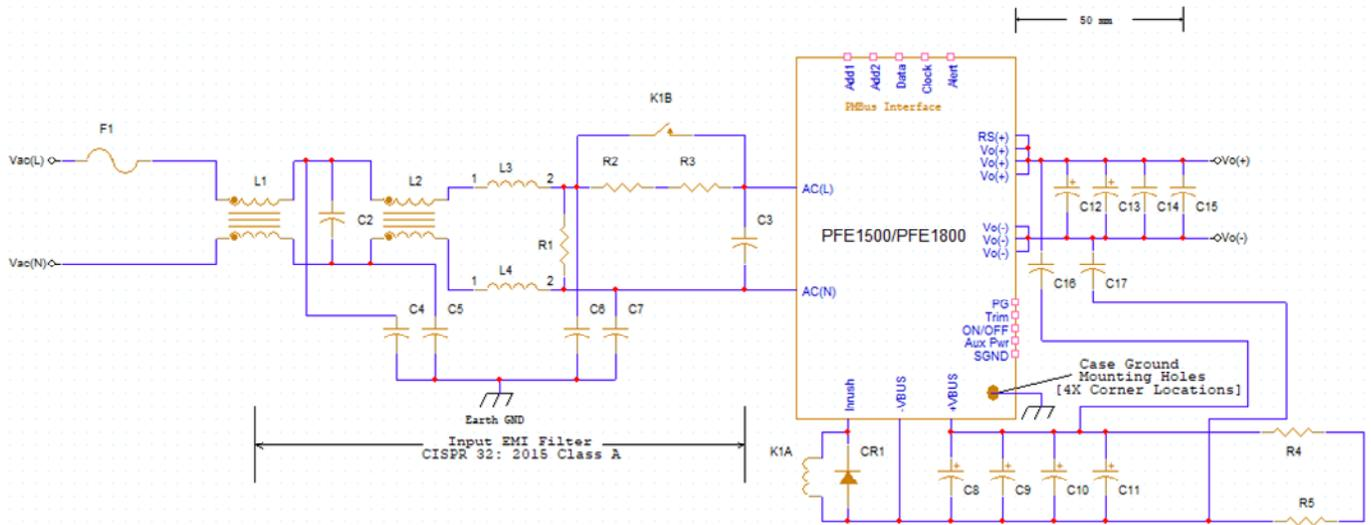

Fig. 7-1 Basic Connection
For proper operation, the PFE1500/1800 series module must be connected with the external components shown in Figure 7-1. Pay attention to the wiring details. If the PFE module is wired incorrectly, the power module may be damaged.
Connect bleeder resistors, R1, across the AC input terminals and R4 and R5 in series across the bulk capacitors C8 - C11 as shown in Fig. 7-1.
Y-capacitors cross the dc-dc converter isolation boundary and are used to reduce common mode noise. These capacitors should be connected between the points indicated in figure 7-1 with low inductance traces that are as short as possible. Capacitors with a high voltage rating are typically required for safety isolation withstanding purposes. High test voltages are often applied across these capacitors during production hipot testing.
3. Bleeder resistors, R4 & R5 (470 kΩ / 2 W), must be connected across C8, C9, C10 or C11 to discharge the bulk capacitor voltage to a safe level after powering off the PFE module. Refer to Figure 7-1.